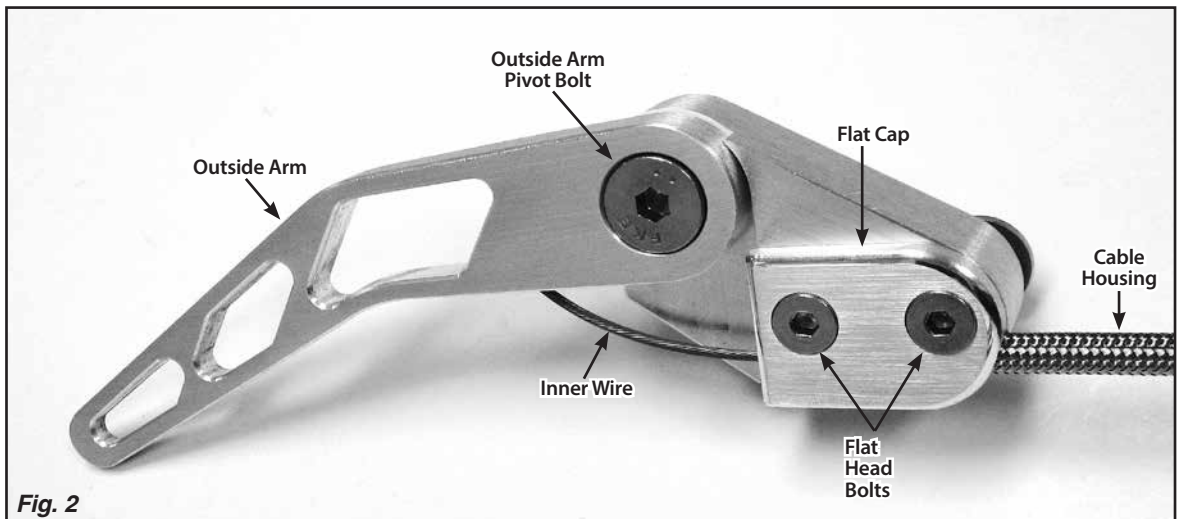

Fig. 2
Step 2: ALL: Pull the outside arm back as far as it will go. Pull the inner wire out of the cable housing, and then pull it out of the outside arm. **Fig. 2**
If you need to mount the release handle assembly more than 24" from the hole in the firewall, a custom length inner wire and cable housing will be required. If the release handle assembly is to be mounted close to the firewall and the cable housing is too long, it may be cut to fit. Loosen the two flat head bolts that attach the flat cap to the release handle assembly and pull out the cable housing (**Fig. 2**).
Step 8: ALL: Mount the release handle assembly at the spot you decided on earlier, using the two 1/4"-20 x 5/8" hex head bolts with flat washers (supplied), **Fig. 6**. If the release handle assembly is not at the correct angle, do not twist the cable housing! Loosen the two flat head bolts that attach the flat cap to the release handle assembly (**Fig. 2**), twist the release handle assembly to the correct orientation, and tighten the flat head bolts.